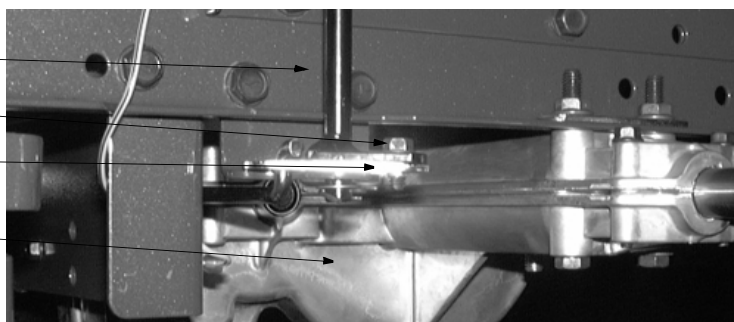

Figure 1
2. Remove and discard the Self Tapping Screw which fastens the Shift Lever to the Shift Bracket. See Figure 1.